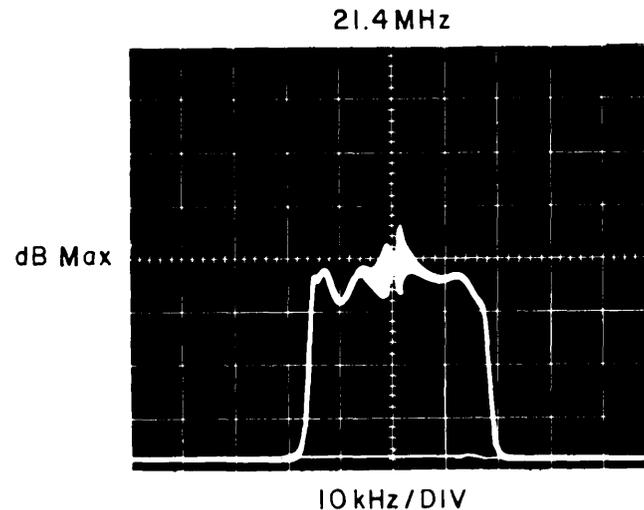

Figure 4-7. Typical Response, 21.4 MHz IF Amplifier
- (5) Adjust capacitors A6C21 and A6C25 for maximum gain and response flatness. (If the capacitor settings fall at their maximum or minimum extremes, A6L4 and A6L5 may be adjusted by spreading or compressing the coil turns as required.) Refer to Figure 4-7 for a typical response of the 21.4 MHz IF Amplifier.